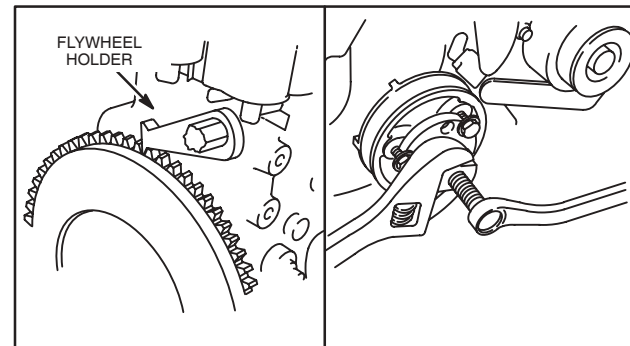

Fig. 8 – Removing Crankshaft Pulley
- a. Remove crankshaft pulley using Tool # 19420, Fig. 8.